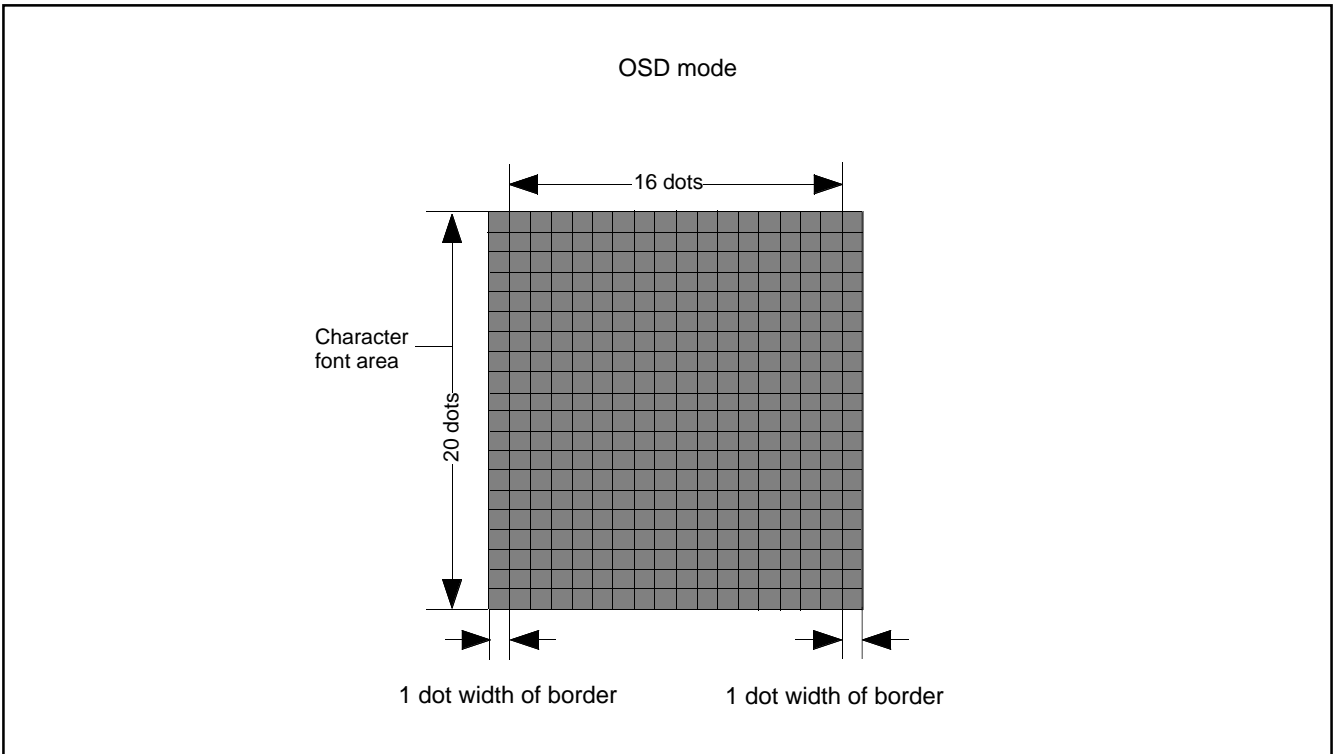

Fig. 8.11.34 Border Area
**Notes 1:** The border dot area is the shaded area as shown in Figure 8.11.34.